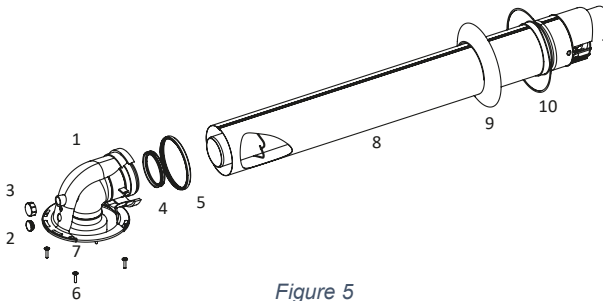

Figure 5
- The hermetic flue set is delivered in a carton box separate from the unit. The standard hermetic flue set (\varnothing 60/100 or \varnothing 80/125) consists of the following components (Figure 5).